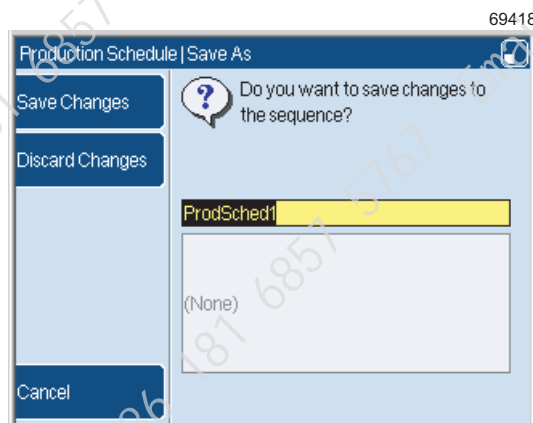

Figure 8. Save As page
- 3 Set the options you require for each message in the schedule on the **Edit Item** page and press the **Exit** key two times to save the completed Production Schedule. The printer displays the **Save As** page as shown in Figure 8 on page 7. The Production Schedule is saved to the **Message Store**.